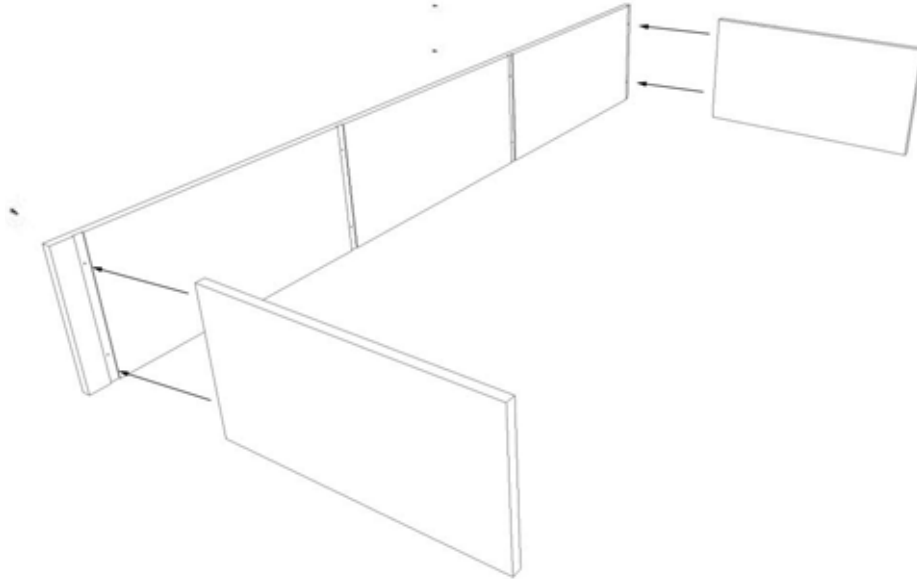

Figure 1
2. Attach the top and bottom panels to the left side panel using the pre-drilled holes and screws provided (**Figure 1**).